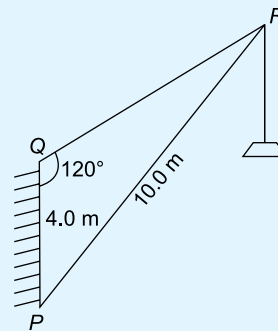

Figure 1.7
- In Figure 1.7, PR represents the inclined jib of a crane and is 10.0 m long. PQ is 4.0 m long. Determine the inclination of the jib to the vertical (i.e. angle P) and the length of tie QR .